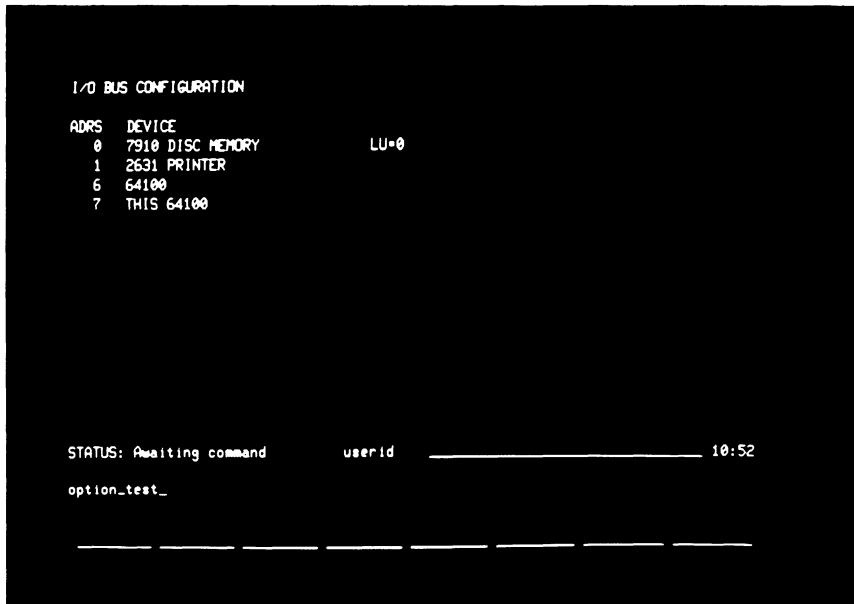

Figure 4-1. Awaiting Command Display
- a. With the operating system initialized and awaiting a command, as shown in figure 4-1, type in the lower case command;